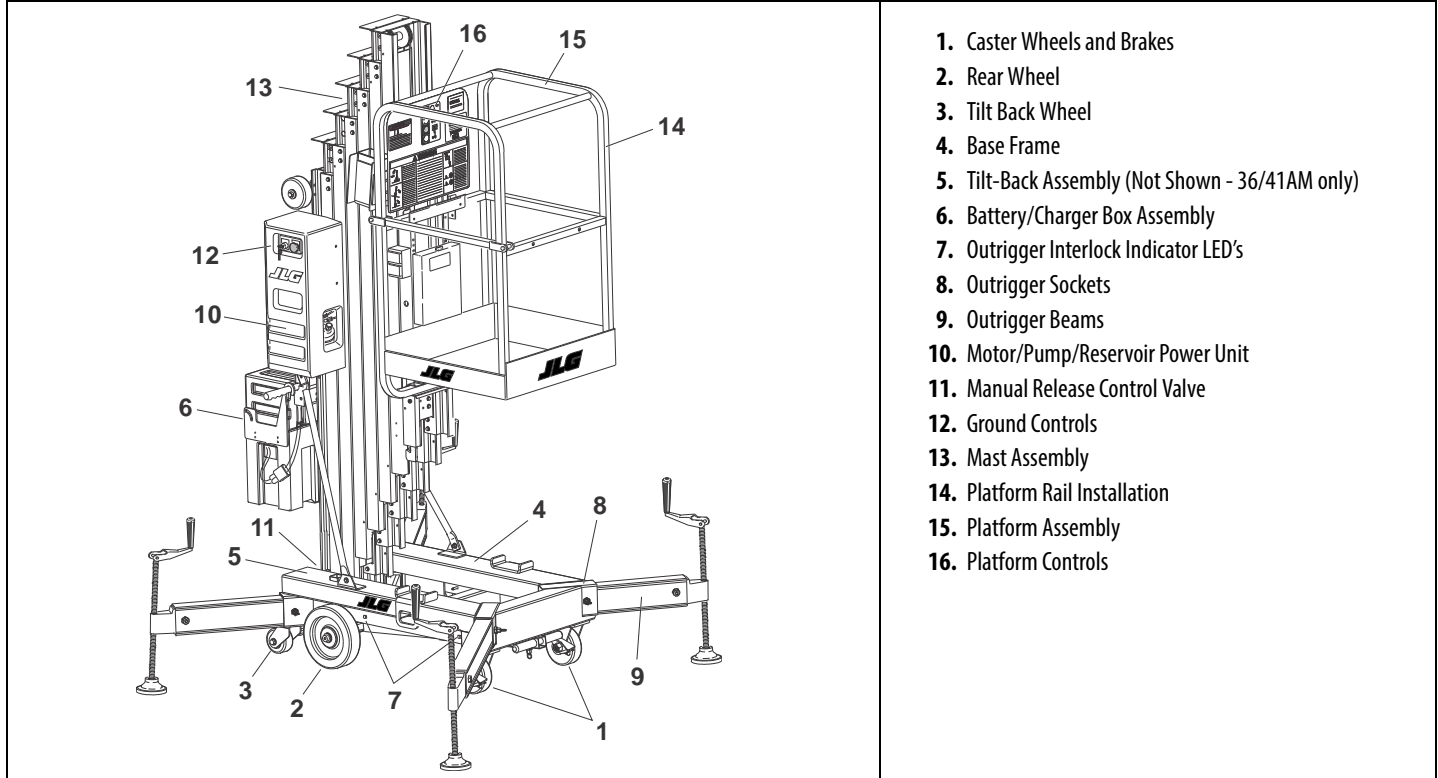

Figure 2-1. Daily Walk-Around inspection
- 4. Walk-Around Inspection** – Refer to Figure 2-1. on page 2-7.
Begin Walk-Around Inspection at item 1 (See Figure 2-1. on page 2-7). Continue around machine checking each item in this check list.